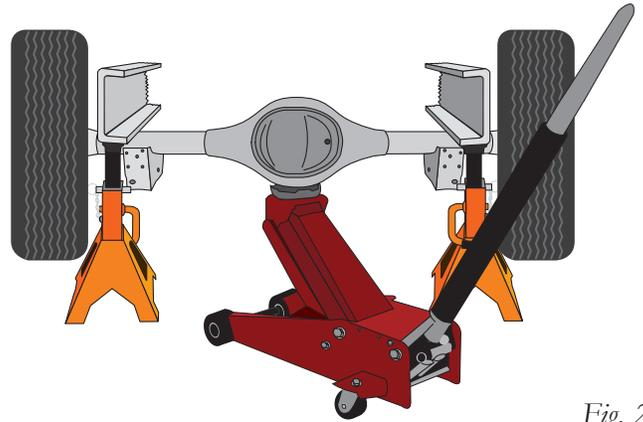

Fig. 2
1. Lift the vehicle and support the frame with safety stands. Remove the rear wheels. Drop the axle down low enough to later set the air springs into position between the frame and axle (Fig. 2).